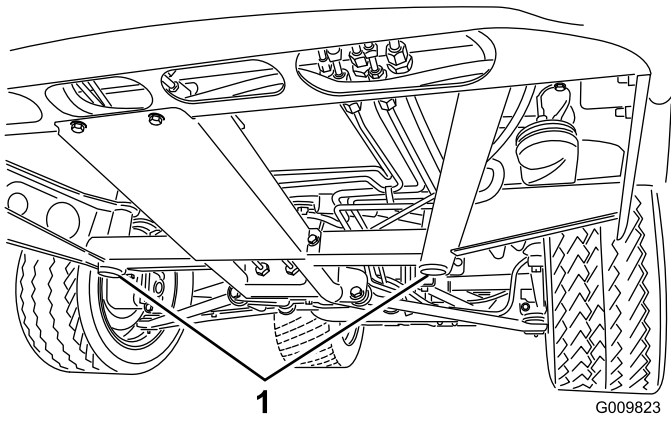
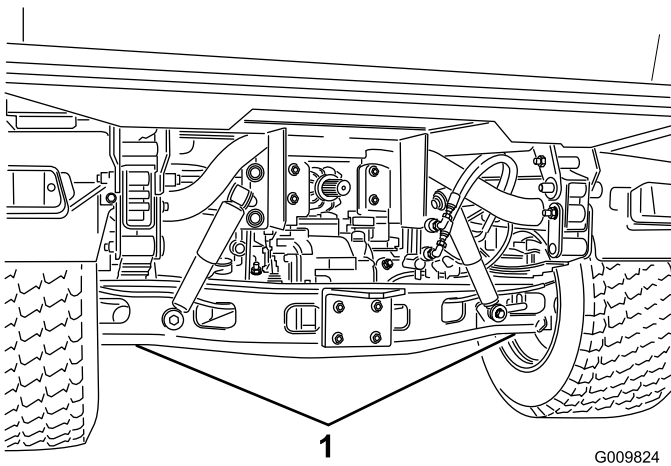

Figure 33
Figure 34
- The jacking point at the front of the vehicle is under the front center frame support (Figure 33) and at the rear it is under the axle (Figure 34).